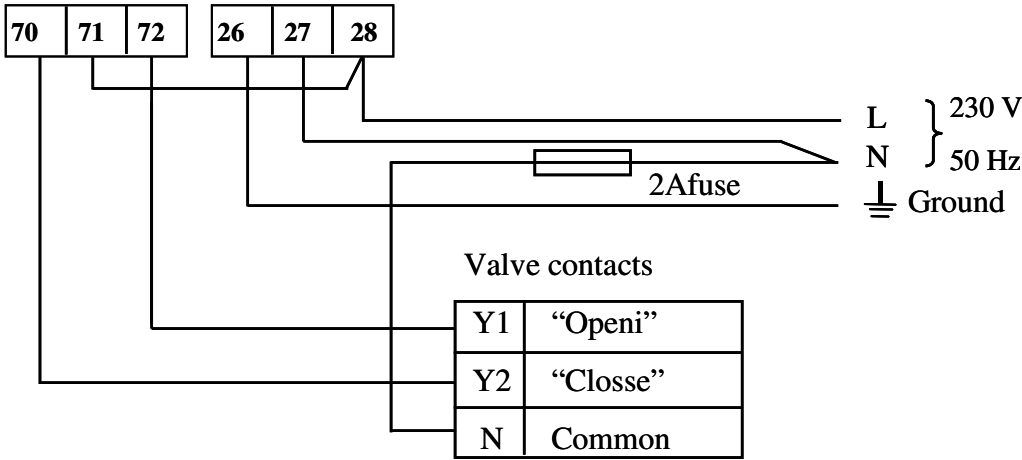

Fig. B4. Diagram for connecting the regulating valve (regulating function). Valve power supply is 230 V
4. Diagram for connecting the regulating valve is presented in Fig. B4.